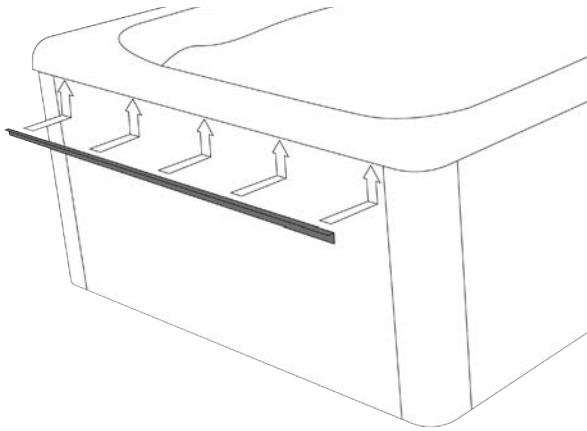
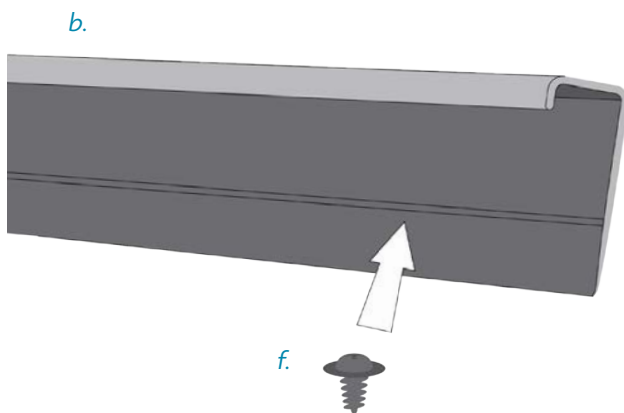

FIGURE 2
FIGURE 3
2. LEVER CHANNEL Install Lever Channels (b) to both 8' ends of the swim spa skirting (Figure 2). Center Lever Channel on the swim spa skirting against the swim spa shell flange with "L" side up (Figure 3). Use 5 of the #8x½" screws (f) to mount this. First, install 1 screw into the channel groove at each end, 1" from the end (Figure 3). Then, space the remaining 3 screws evenly across the Lever Channel. Repeat for the opposite end of the swim spa.